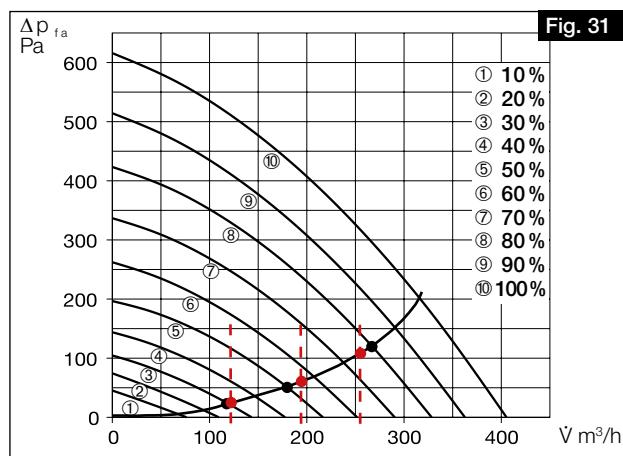

Fig. 31
1. Enter the flow rates from the design calculation for the three ventilation profiles "At home", "Away" and "Boost" in the unit characteristic curve for supply and extract air (cf. Fig. 31).
① We recommend entering the following values in the ventilation profiles:
2. The approximate fan powers to be set (in %) can be read from the ventilation profiles at the points of intersection of the flow rates and the system characteristic curve (cf.). Enter these in the corresponding ventilation profile via the easyControls software or the control element KWL-BE Touch (cf. Fig. 31 and Fig. 32).